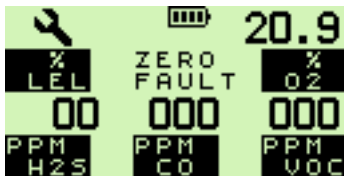

Fig. 3.10 Sensor Fault
- If a “ZERO FAULT” message and a spanner symbol (not flashing) appears above gas type, as shown in Fig. 3.10, then the sensor requires replacement or an electrical fault exists.